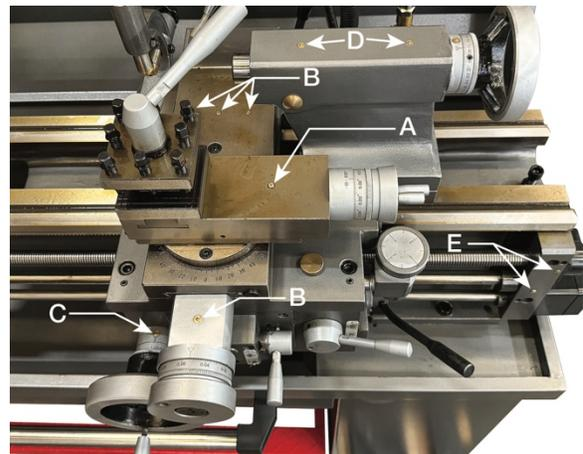

Figure 8-5
9. **Compound Slide** - Lubricate ball oiler (A, Figure 8-5) once daily with Mobil DTE® Oil Heavy Medium.
10. **Longitudinal and Cross Slide** - Lubricate ball oilers (B, Figure 8-5) once daily with Mobil DTE® Oil Heavy Medium.
11. **Longitudinal Feed Handwheel** - Lubricate ball oiler (C, Figure 8-5) once daily with Mobil DTE® Oil Heavy Medium.
12. **Tailstock** - Lubricate two ball oilers (D, Figure 8-5) once daily with Mobil DTE® Oil Heavy Medium.
13. **Leadscrew/Feed Rod** - Lubricate two ball oilers once daily (E, Figure 8-5) with Mobil DTE® Oil Heavy Medium.